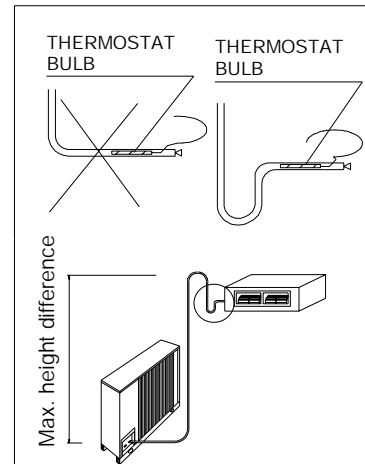

Figure 4
- If the condensing unit is lower than the evaporating unit (see figure 4), install a drain trap of equal height to the exchanger coil, so as to prevent the return of liquid to the compressor when the unit is off.
- If the terminal unit is fitted with a thermostat as well as a drain trap, install a socket (see Figure 4) as near as possible to the unit. This will prevent the bulb of the thermostat from remaining in contact with the liquid when the unit is off (see Figure 4).